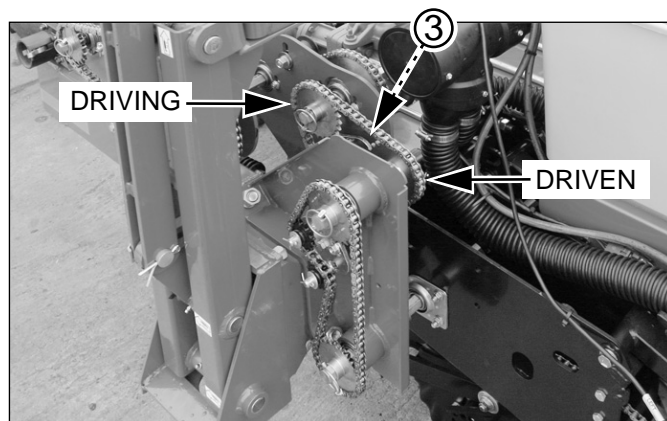
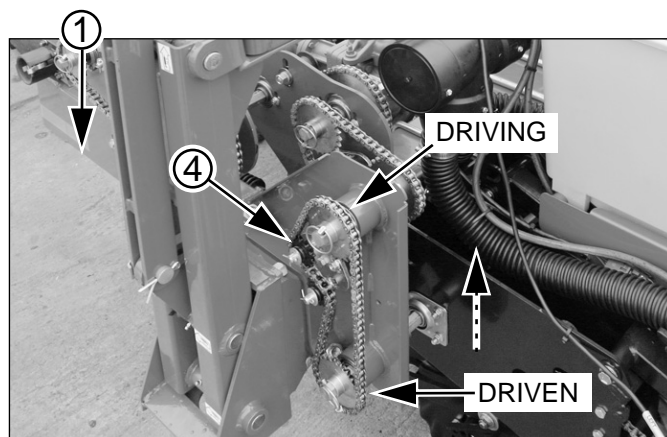

Figure 29
Figure 30
*Refer to Figure 29 and Figure 30*
*Refer to Figure 30*